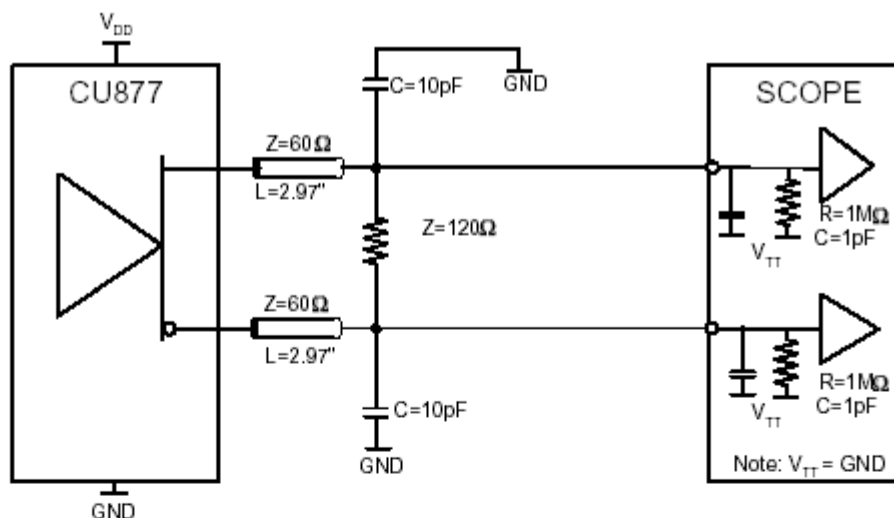
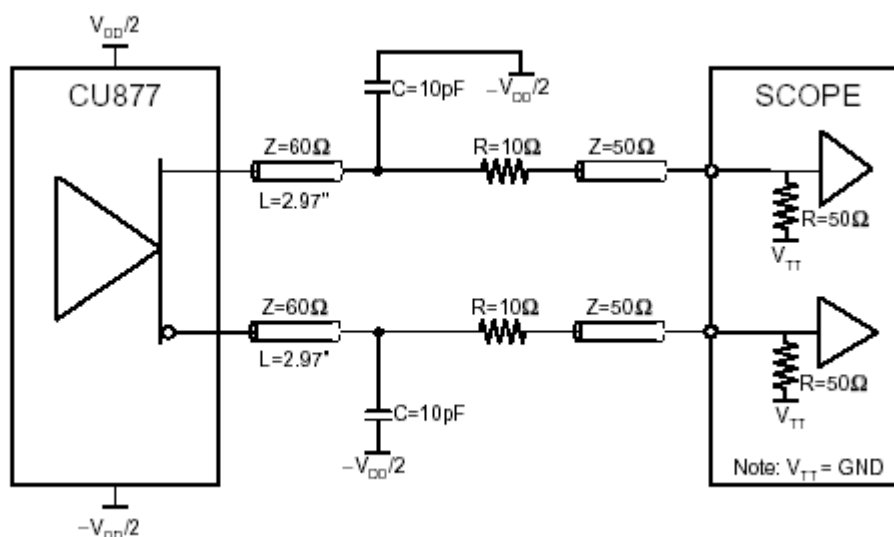

Figure 2. Output Load Test Circuit 1
Figure 3. Output Load Test Circuit 2
NOTE 1: There are two different termination that are used with the following tests. The load/board in Figure 2 is used to measure the input and output differential-pair cross voltage only. The load/board in Figure 3 is used to measure all other tests. For consistency, equal length cables should be used.
5. The output slew rate is determined from the IBIS model into the load shown in Figure 3.